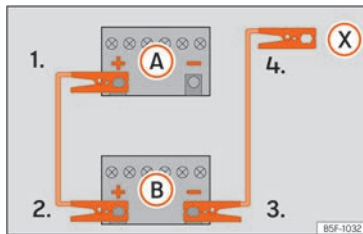

Fig. 210 Diagram of connections for vehicles without Start Stop system
- Vehicles without a Start-Stop system:* connect one end of the black jump lead to the negative terminal **-** of the vehicle providing the current **B** »» Fig. 210.